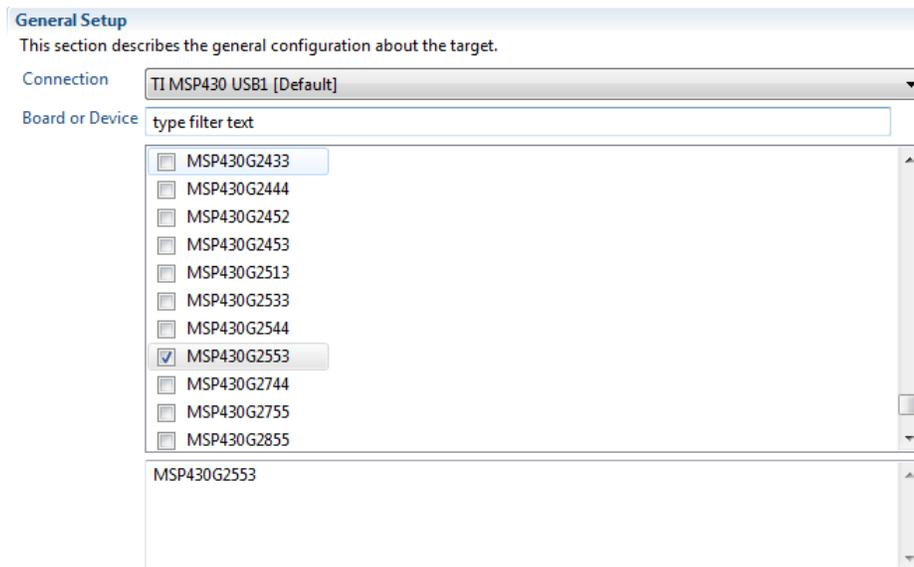

Figure 7. Target Configuration Setup
- Set up the *Target Configuration* as shown in Figure 7. Save the *Target Configuration* file.